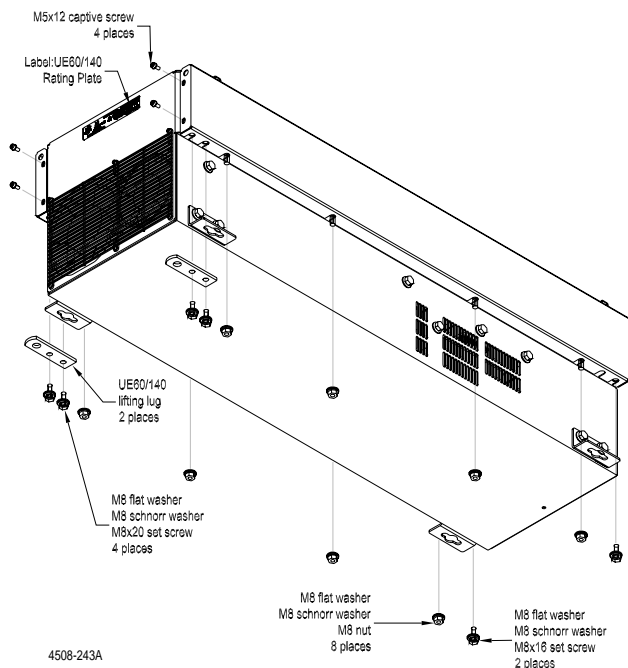

Figure 3.19: Side Panel Disassembly
- 3) Refer to figure 3.19, remove the side panels by removing: